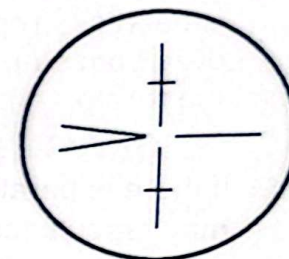

Fig.4.6
- 1) Use the peep sight ③ to point the objective lens ⑨ at the target.
- 2) Gradually turn the eyepiece ⑭ until just before the reticle cross-line becomes blurred. (Fig.4.6) Use the lens hood ① in strong light conditions.